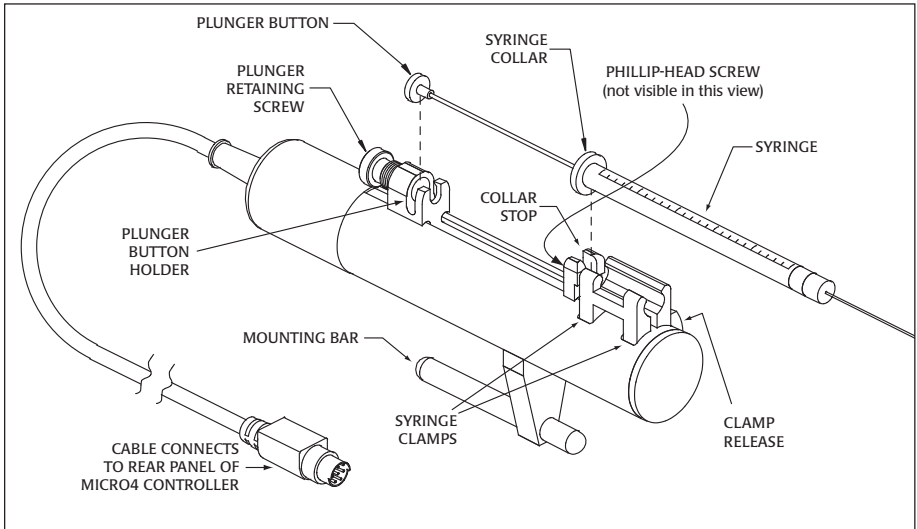
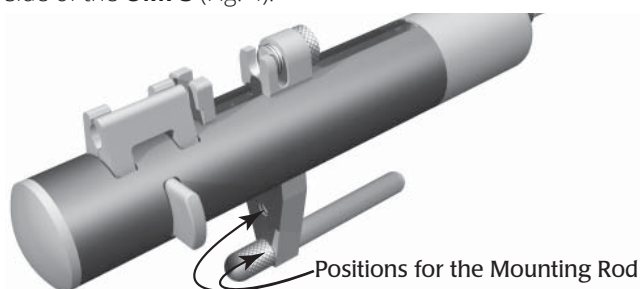

Fig. 3—The parts of the pump are labeled
Fig. 4—Unscrew the mounting rod to reposition it.
The **UltraMicroPump** can be mounted directly onto a stereotaxic frame or a micromanipulator, using the mounting bar (Fig. 3). The mounting bar may be unscrewed and repositioned, if necessary. Two positions are available on the under side of the **UMP3** (Fig. 4).
3. Then, place the syringe collar into the collar stop (Fig. 3).